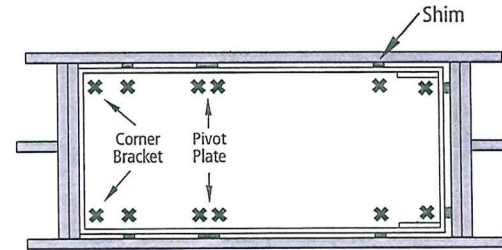

FIGURE 5
A. Install fasteners at the 12 locations shown in figure 5 for permanent installation. Either ¼" x 3" lag screws or 16d nails should be used. Install shims when necessary to fill any gaps between the door frame and rough opening. Make sure to install the fasteners in the holes provided in the corner brackets and pivot plates.